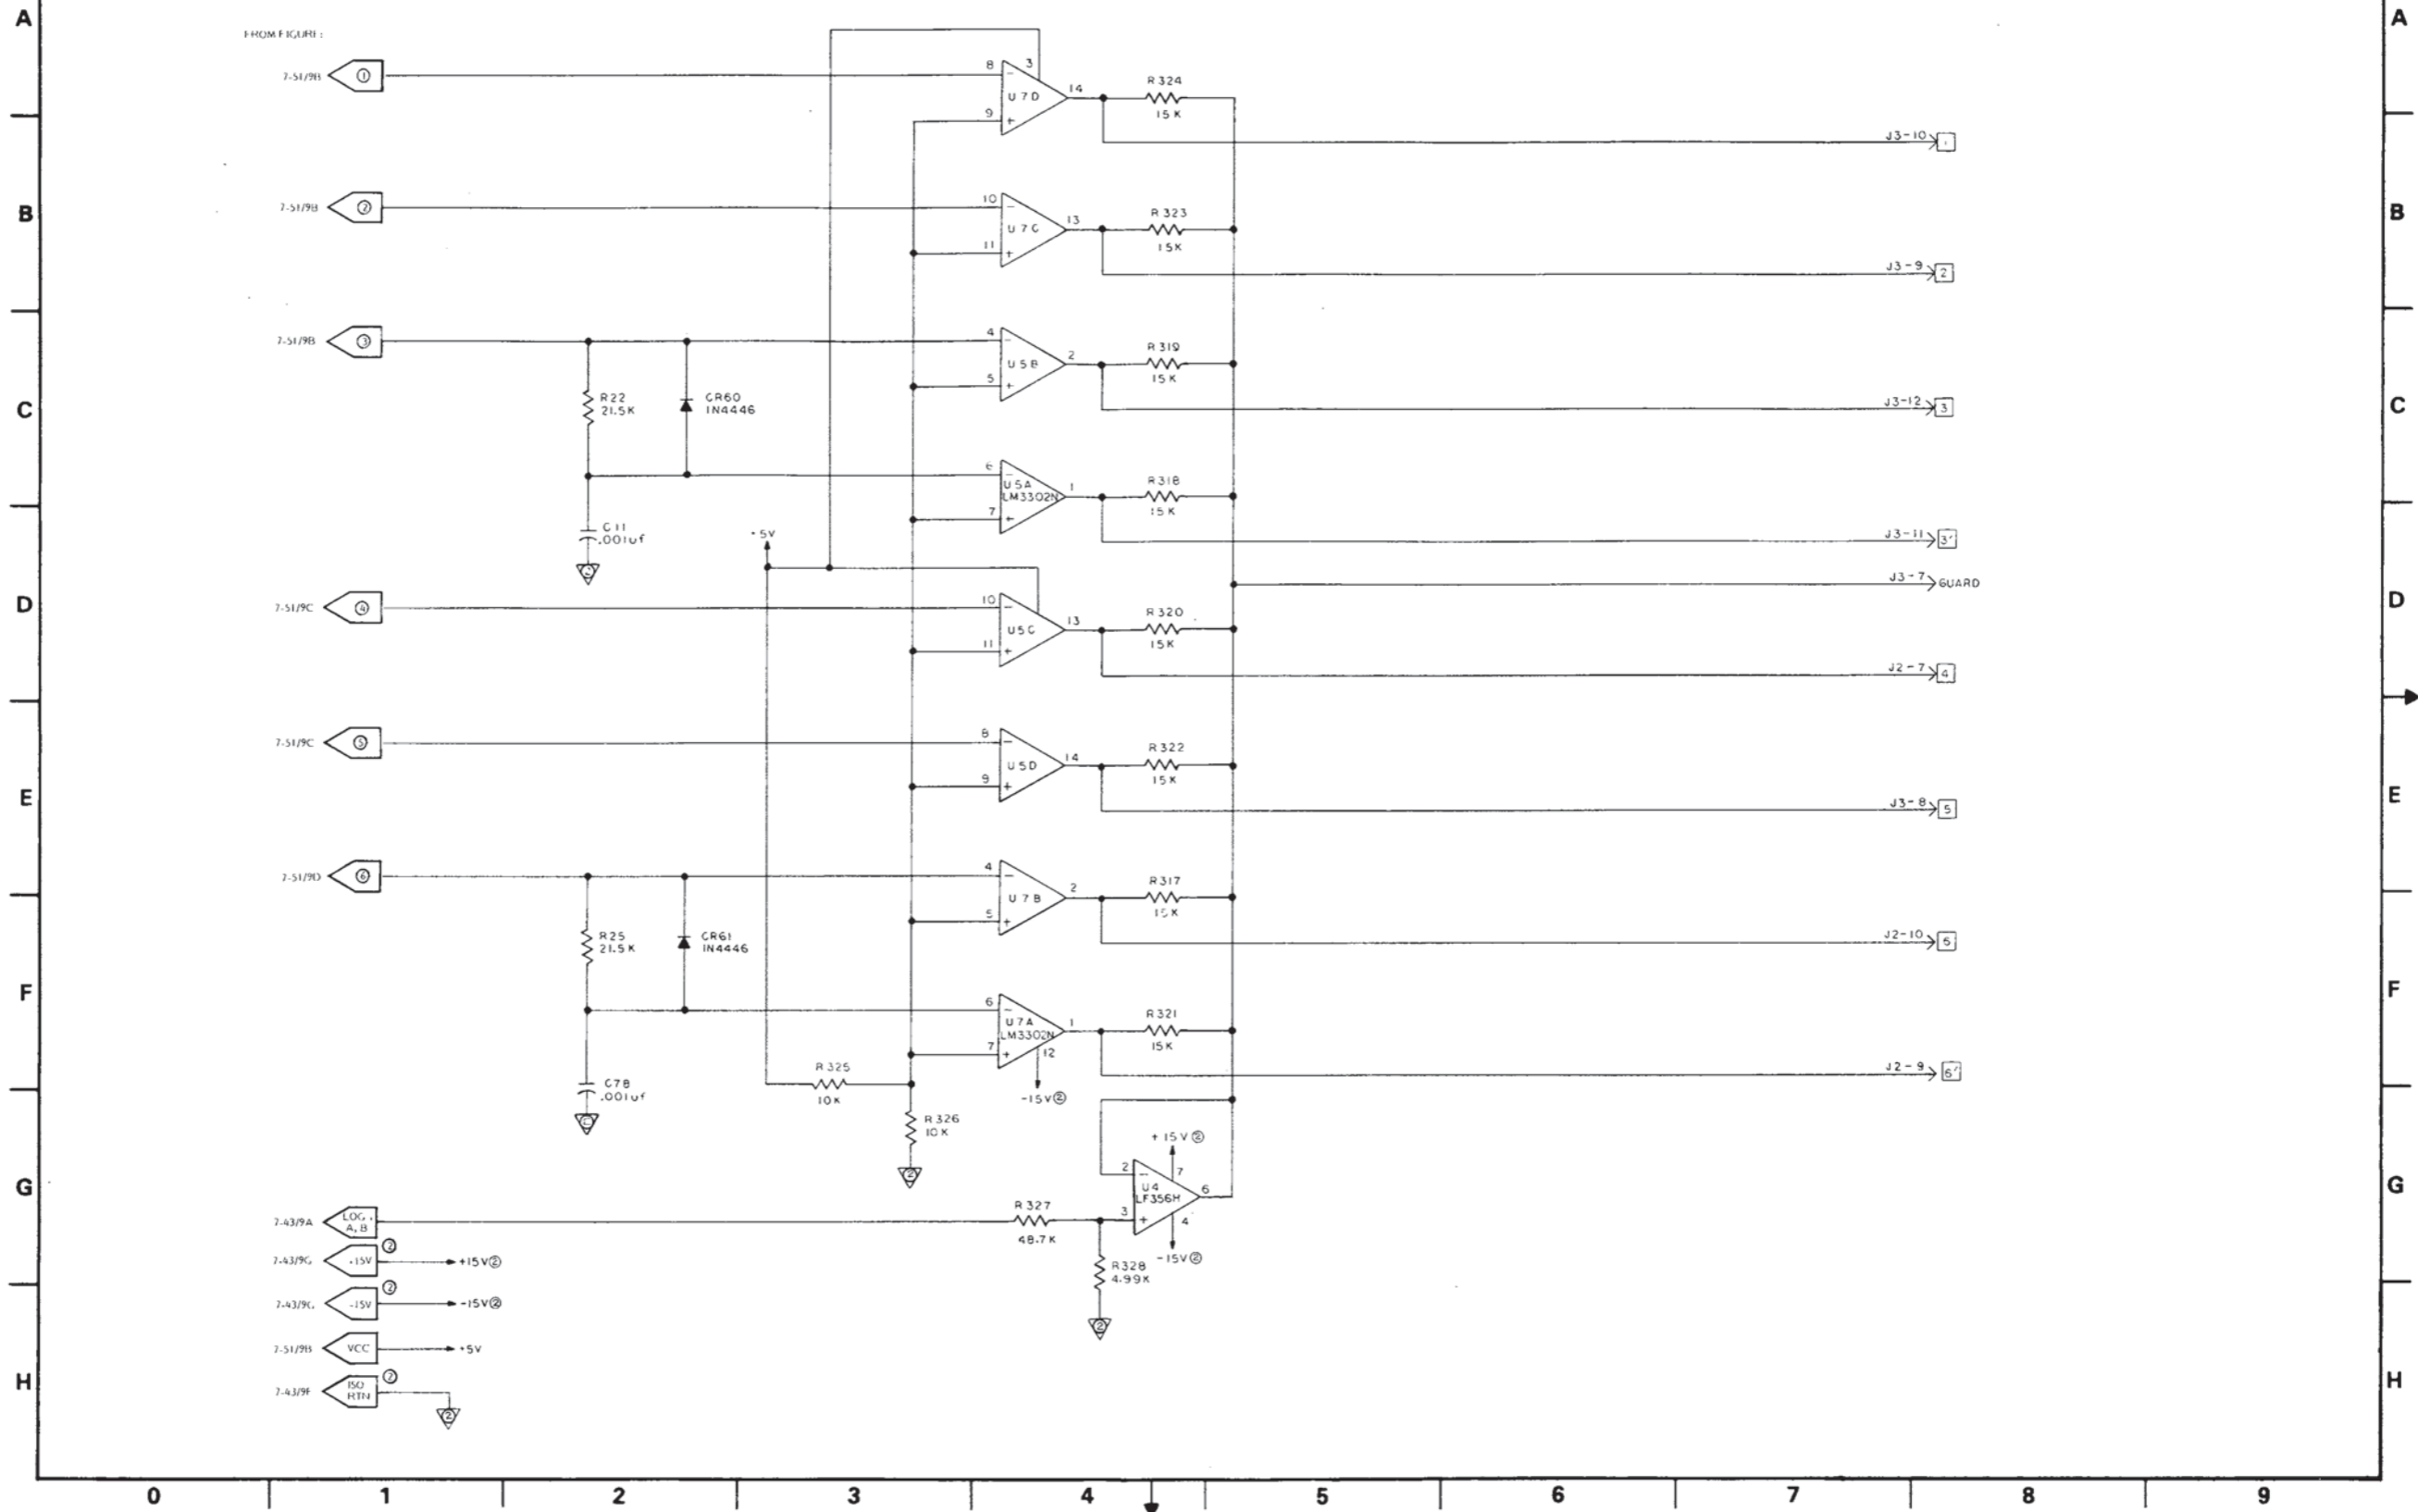

Figure 7-52. Log Amplifier (A3) PCB Input Module Voltage Translator Circuit Schematic Diagram
← Figure 7-52.
This circuit translates between CMOS and J-FET voltage levels. The voltage levels of the output pulses from the Channel A&B Demultiplexer and Switch-Reference circuits are CMOS (0 to +5 volts); the pulse voltage levels required by the Input Module multiplexer circuits are J-FET (-15 to 0 volts). The schematic for this circuit is shown in Figure 7-52, the parts locator diagram is shown in Figure 7-53, and
The inputs to this circuit (Figure 7-52) are the ①, ②, ③, ④, ⑤, and ⑥ pulse signals from the Channel A&B Demultiplexer and Switch-Reference Logic circuits. The circuit outputs are the ①, ②, ③, ③', ④, ⑤, ⑥, and ⑥' pulse signals. These signals go to the A10 Input Module Assembly.